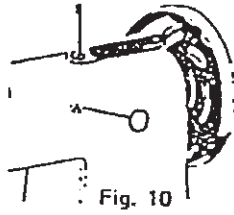

Fig. 10
(1) 取下机壳上的橡皮塞 A: (图 10)
Remove the rubber plug (A) on the machine arm (Fig10).